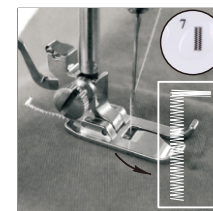

Fig.2
- (3) Choose the stitch pattern #7, turn on switch and sew on the cloth in suitable length, then turn off switch. Note that try to keep sewed stitch in straight line (Fig.2)